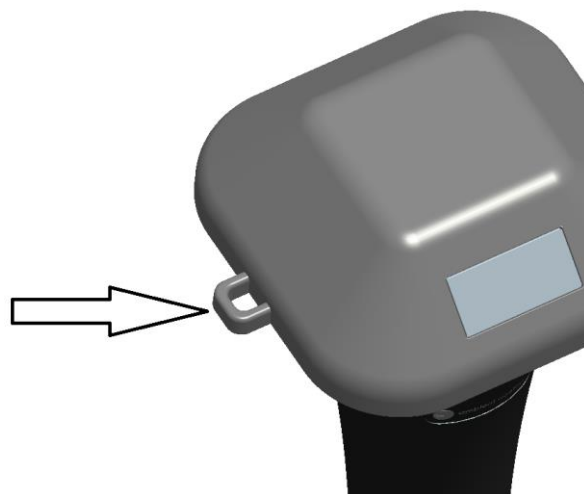

Figure 2
1. Place the sensor in the pool or spa within 100 feet of the display console (**Error! Reference source not found.**, reference A). Avoid transmitting through solid earth or ground (**Error! Reference source not found.**, reference B). Use a tether (string, not included) to affix the sensor location in the pool or spa using the attachment point. (Figure 2)